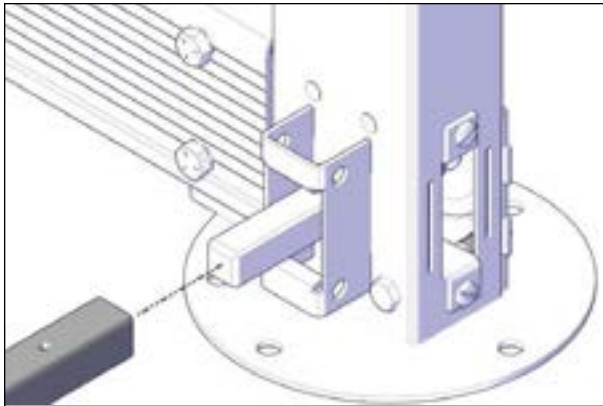

FIGURE 52: DRIVE SHAFT INSTALLATION
- Slide the drive shaft over the square shaft located at the bottom of the left motor-side jack assembly see Figure 52.